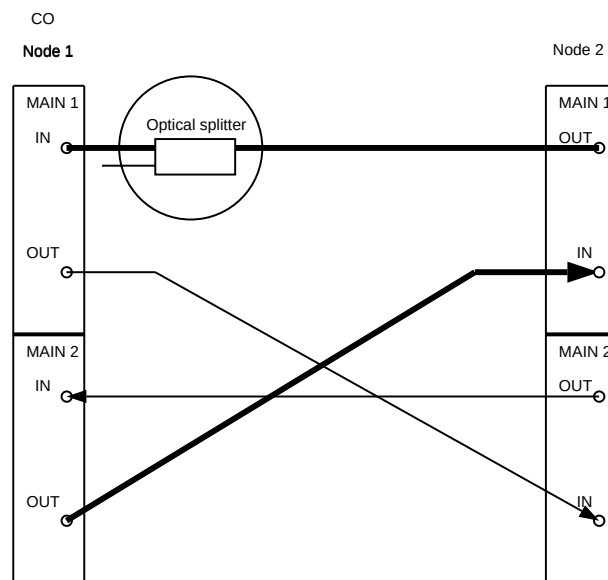

Figure 10. DDM-2000 OC-3 Drop or Add/Drop Network to Ring Upgrade
20. Disconnect optical fiber from **MAIN 1 IN** at Node 1 and install optical splitter in **MAIN 1 IN** optical line as shown in Figure 10.